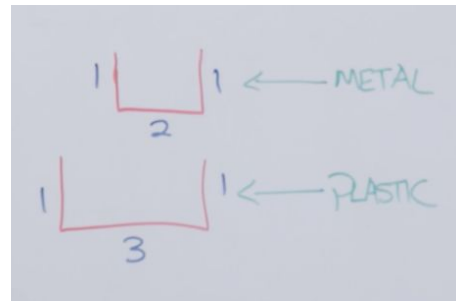

Figure 1.17
- When creating U-channel bends (two opposite bends), maintain safe spacing (see Figure 1.17):